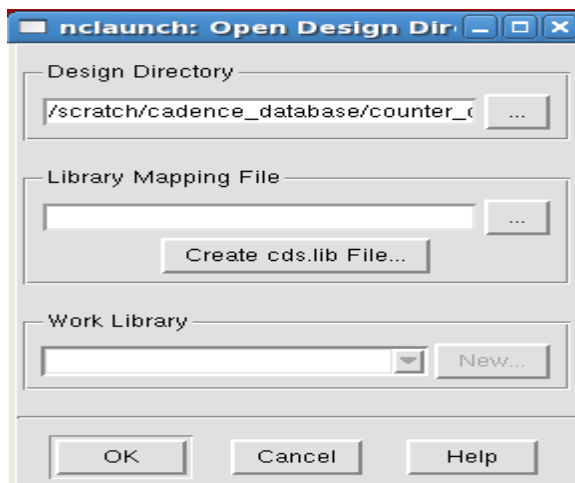

Fig 4
- On clicking the 'Multiple Step' option, 'nclaunch: Open Design Directory' window will appear as shown in fig 4.